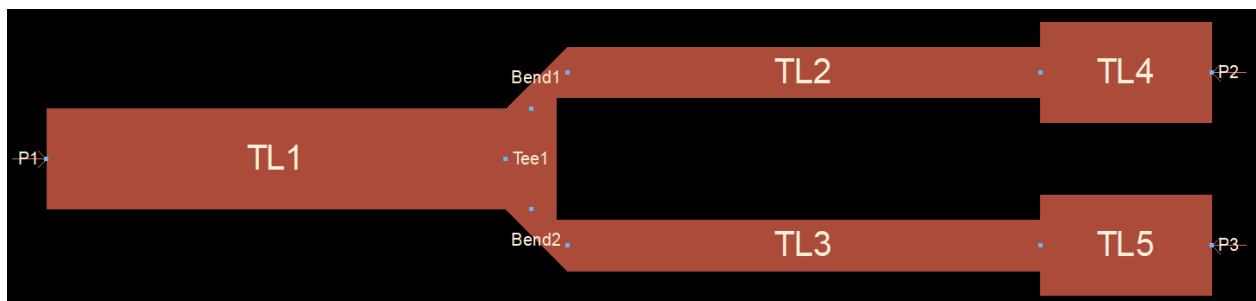

Figure 5. Microstrip layout
3. Create a model of the T-Junction power divider in the layout window of ADS. This can be done using the TLines-Microstrip library. The finished layout is shown in Figure 5.